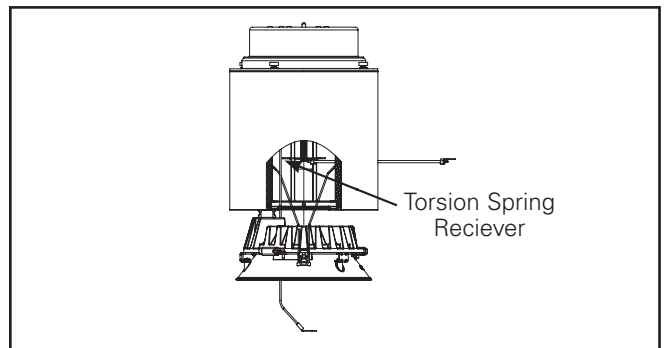

Figure 24
7. Install the LED Engine and trim assembly by inserting the torsion springs into the spring receivers located inside the housing. (Figure 24.)